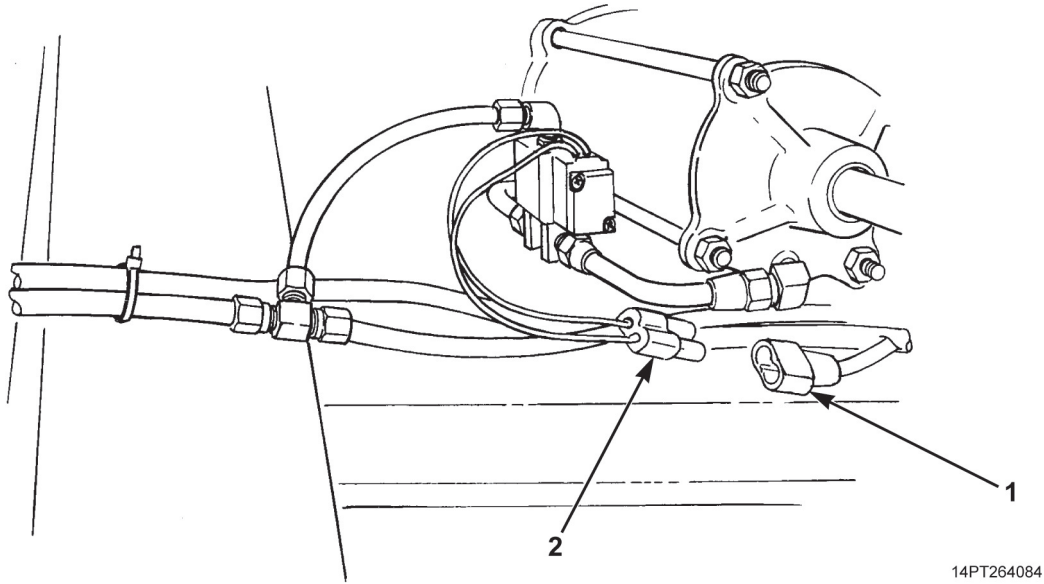

Figure 2. Wiring Harness Removal from Solenoid.
2. Disconnect wiring harness connector (Figure 2, Item 1) from each air cylinder solenoid connector (Figure 2, Item 2).